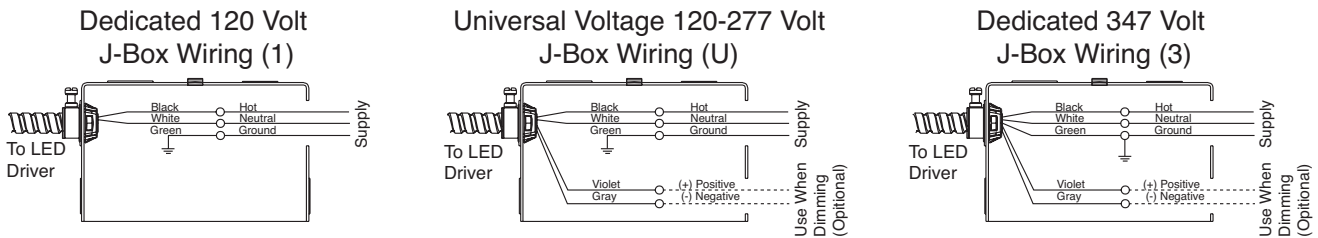

Figure 3
- Step 5.** Connect supply wires to the retrofit trim wires (Refer to Figure 3).